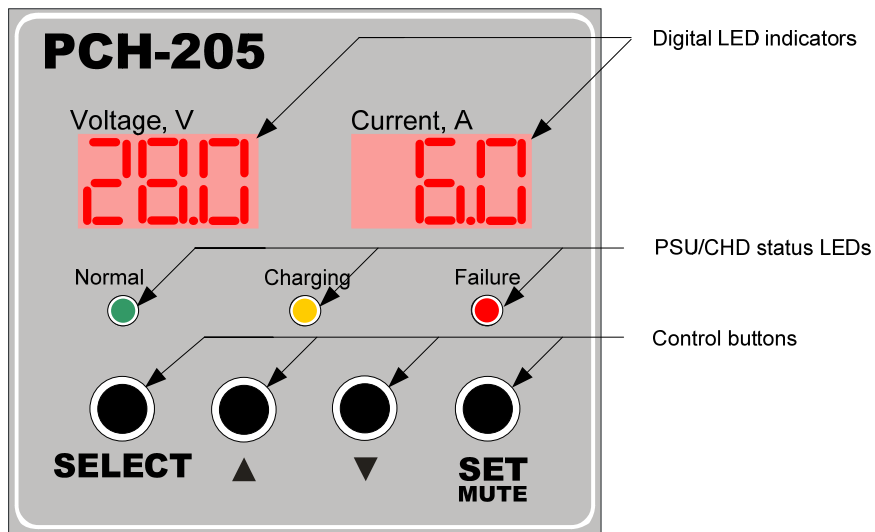

Figure 6 Location of PS Controls and Indicators with Integrated Control
The device configuration with integrated control provides the following controls and indicators: control buttons, three LEDs indicating the device state and operation mode, two digital LED indicators (see Figure 6).
3. LEDs Failure, Normal, Charging are designed to indicate current operation mode of PS. (See Figure 6, Table 5).